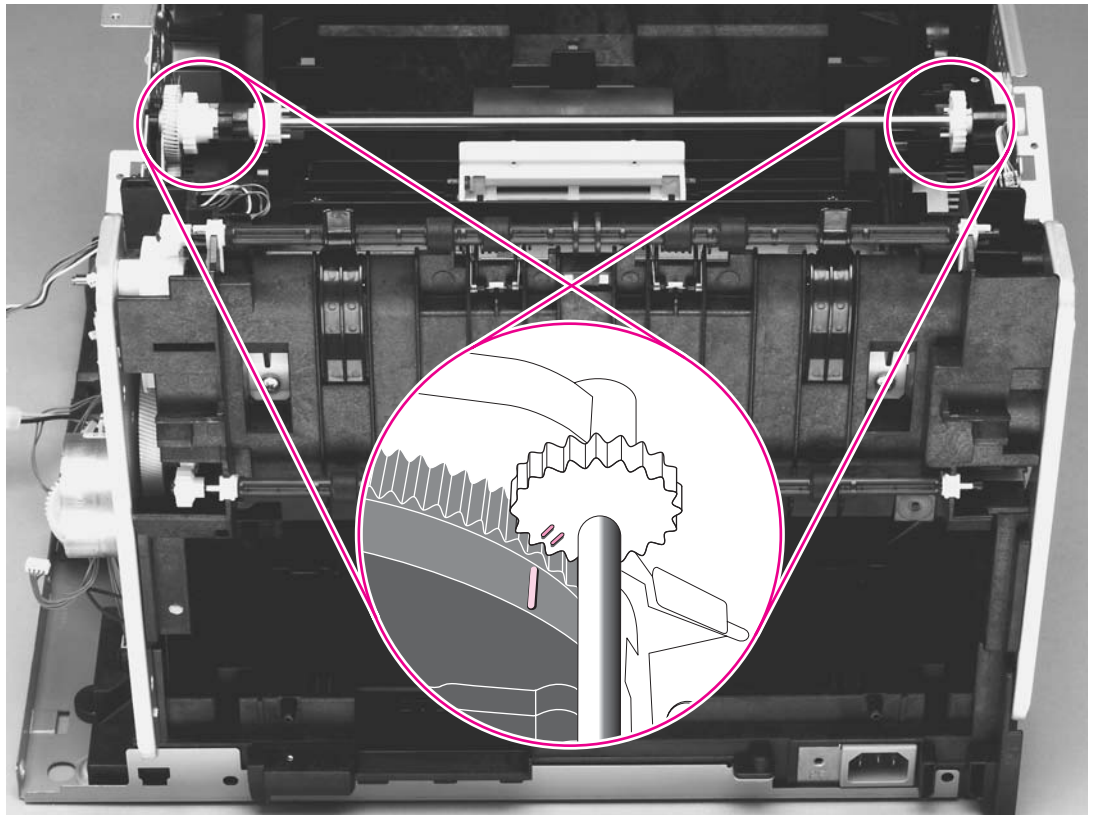

Figure 5-48.
2. Examine the gears: two marks on the smaller gear should line up with the single mark on the larger gear (see the detail of the gears in Figure 5-48. Reinstalling the print-cartridge carousel).